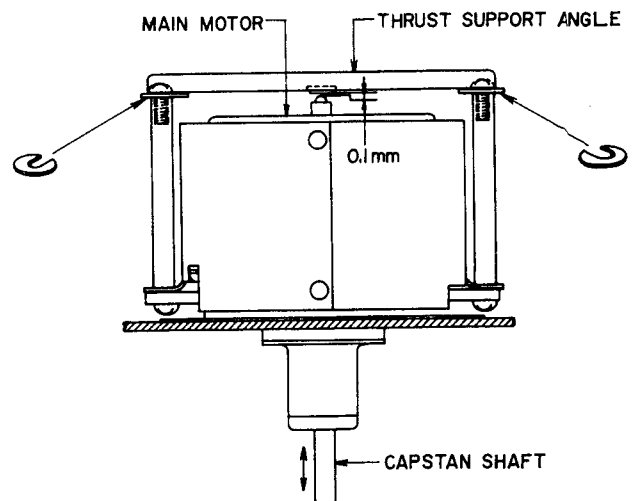

Fig. 4
**5. CAPSTAN SHAFT LOOSE PLAY ADJUSTMENT (Refer to Fig. 4)**